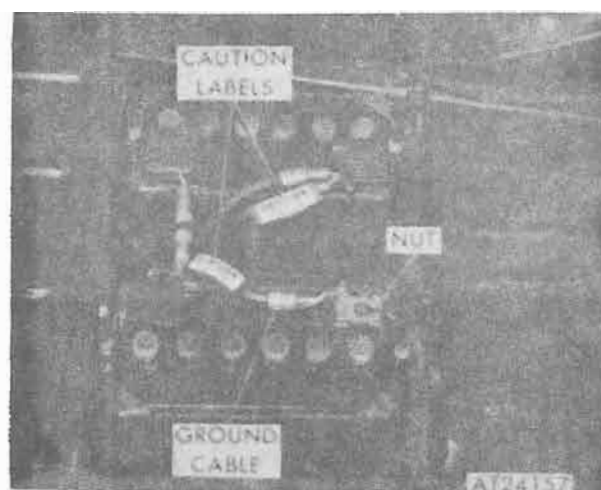

Figure 4-12. Disconnect battery cable.
(4) Loosen nut and remove ground cable from battery terminal post (fig. 4-12).
(4) Loosen nut at battery terminal ground cable post and disconnect ground cable (fig. 4-12).